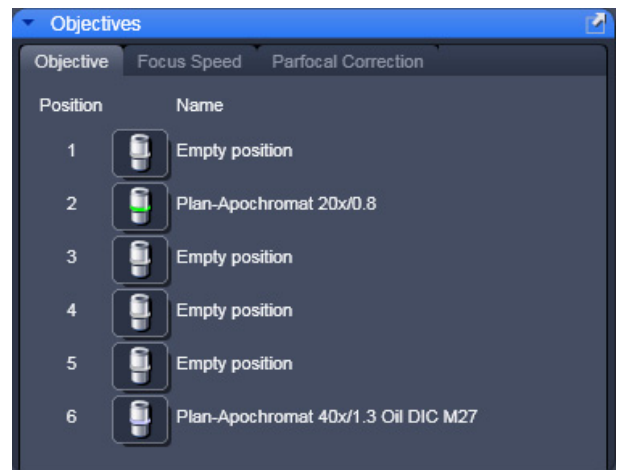

Fig. 161 Objectives tool
- A list of available objectives is displayed with position and name (Fig. 161).